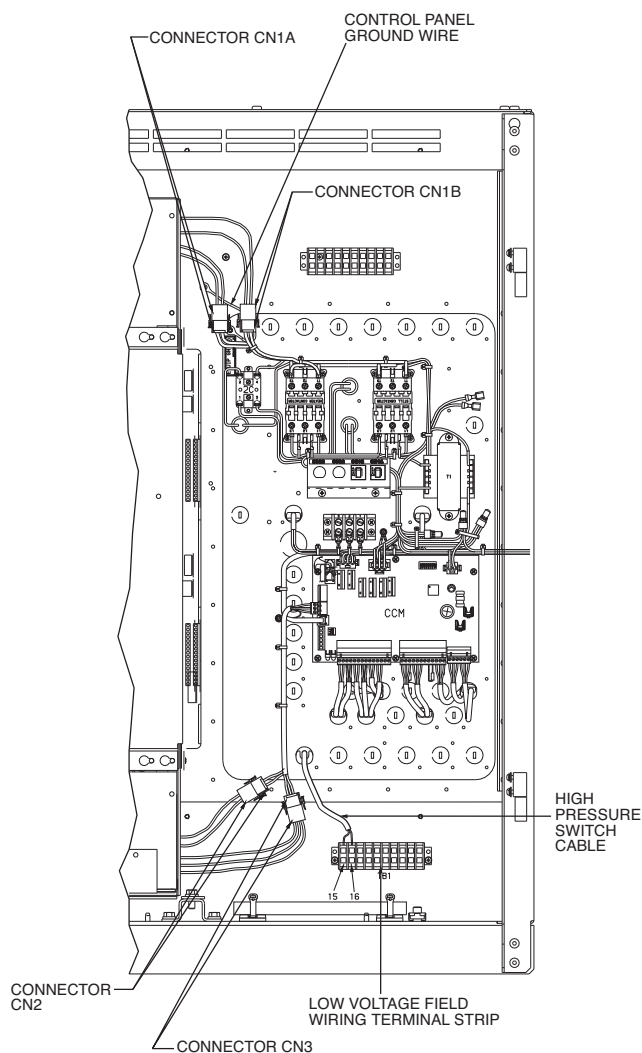

Fig. 19 — Control Panel Connectors
7. Disconnect the high pressure switch leads from terminal strip TB1, terminals 15 and 16 (Fig. 19).
8. Unplug connectors CN1A, CN1B, CN2, and CN3 (Fig. 19).
9. Disconnect the control panel ground wire (Fig. 19) that is located next to connectors CN1A and CN1B.